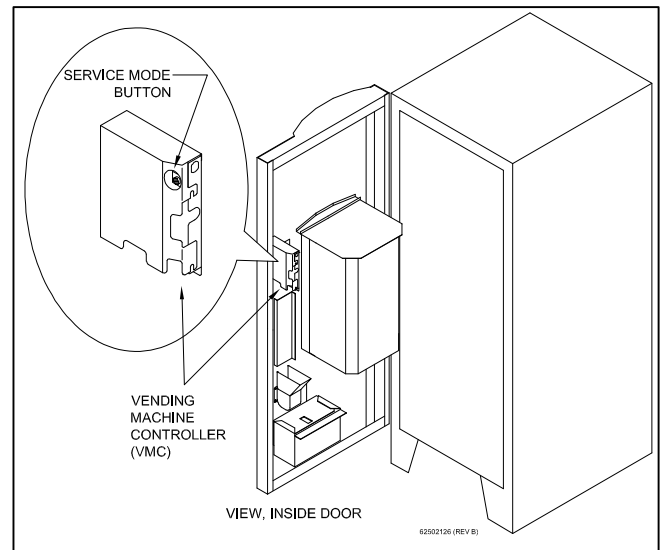

FIGURE 7
2. Press the round yellow push button on the VMC (See figure 7). An audible "beep" signals the service mode has been accessed. Either the System Errors Menu (If system errors are present) or the Main Menu (if no errors are present) will be displayed.